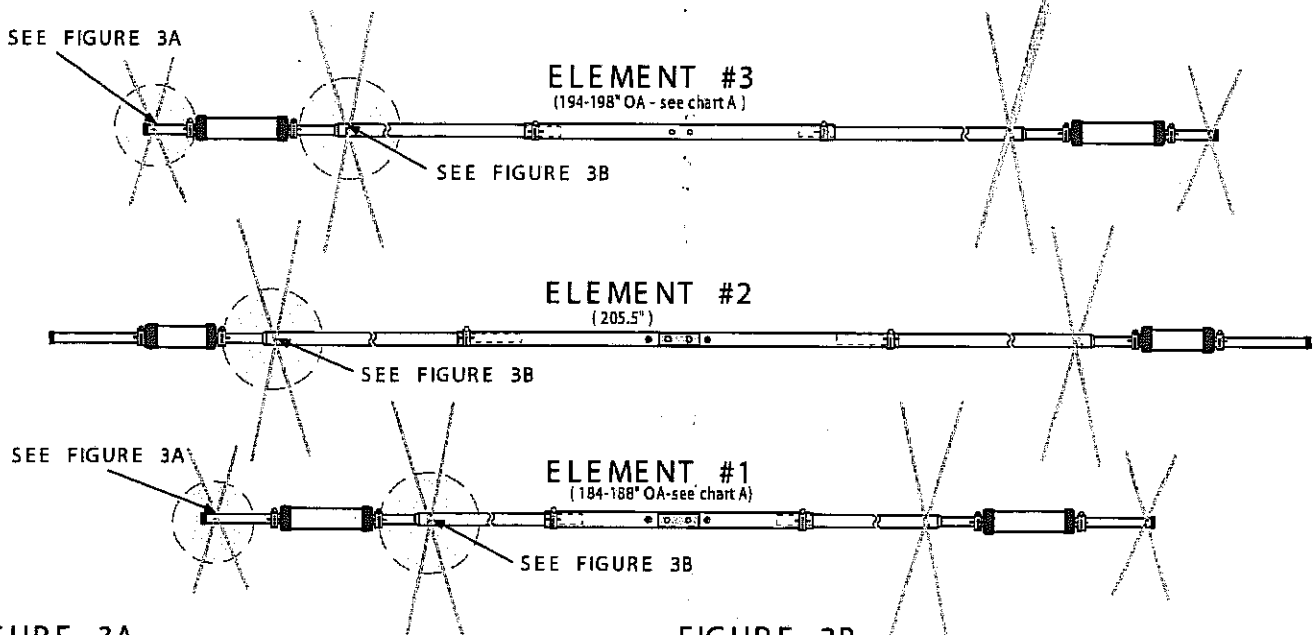

FIGURE 3A
Raise each element assembly of the ground to attach the X-hats to the elements. For element #1, place the 41-inch X-hat rods (X41) and element brackets (26) on elements EB as shown in Figure 3B. Fasten the rods and brackets in place using 8-32 machine screws (20), half washers (28), lock washers (41), and hex nuts (11). Place the 26-inch X-hat rods (X26) and element brackets (26) on elements EC as shown in Figure 3A. Fasten the rods and brackets in place using 8-32 machine screws (31), half washers (28), lock washers (41), and hex nuts (11).
For element #3, place the 41-inch X-hat rods (X41) and element brackets (26) on elements EB as shown in Figure 3B. Fasten the rods and brackets in place using 8-32 machine screws (20), half washers (28), lock washers (41), and hex nuts (11). Place the 26-inch X-hat rods (X26) and element brackets (26) on elements EC as shown in Figure 3A. Fasten the rods and brackets in place using 8-32 machine screws (31), half washers (28), lock washers (41), and hex nuts (11).